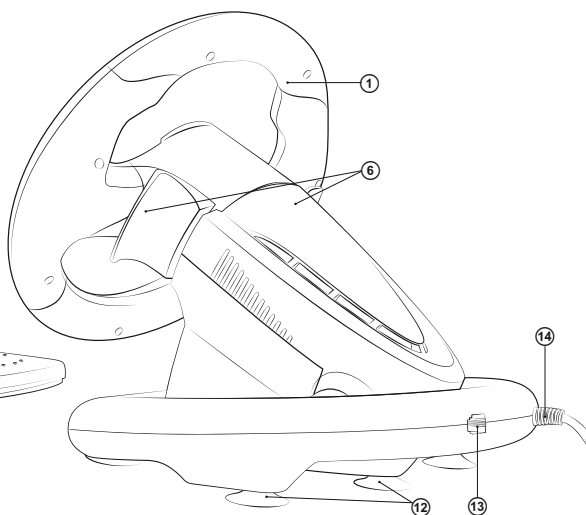

Fig. 4. Back view
- Connect pedal unit to the device (Fig. 4) via cable of the pedal unit to RJ-11 jack ⑬, then connect USB cable ⑭ of the device to the USB port of the computer.